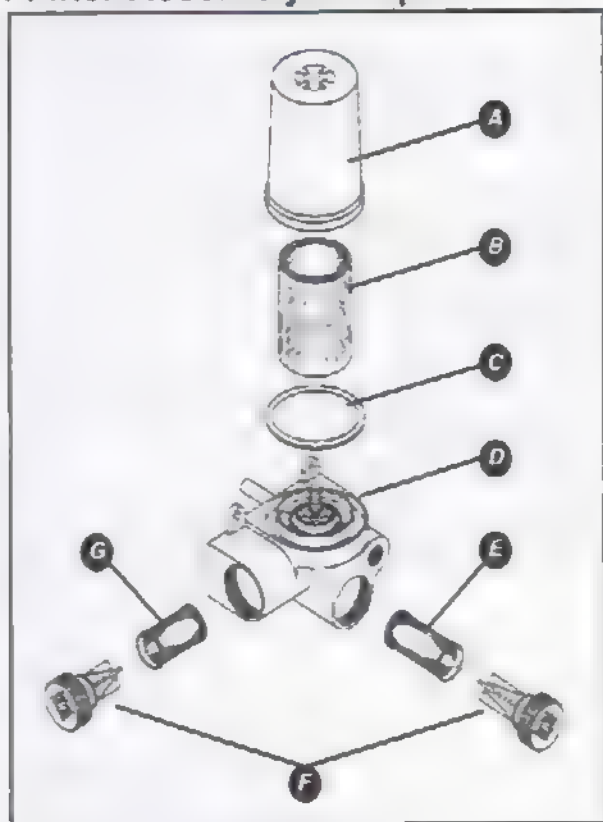

Figure 6-3
2. Insert a 3/8" ratchet drive into the recessed openings provided to remove the filter plugs or the filter bowl from the filter housing (refer to Figure 6-3, items A and F).
4. Discard the secondary filter (see Figure 6-3, item B, the uppermost filter). The secondary filter is not washable.